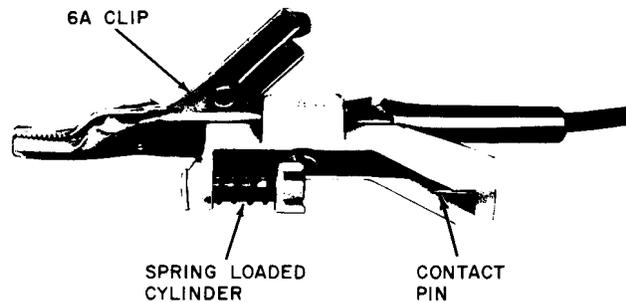

Fig. 17—B Test Clip, L2
**2.27 B Test Clip, L2:** The B test clip, L2 (Fig. 17) consists of a spring-loaded cylinder and contact pin encased in a molded plastic body, 2-inches long, 1/2-inch wide, and 3/4-inch high. This device is used to connect test set clips to B wire connectors without damaging the connector or the connector insulation. These clips are available from: